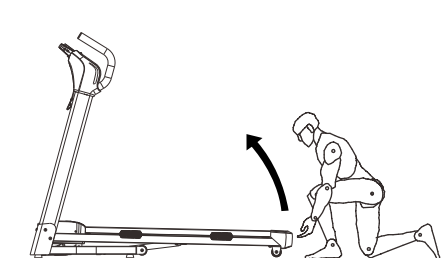

Figure 1
1) Folding treadmill: Folding up the treadmill can save space. Before folding, turn off the power switch, pull the plug, and lift the running platform with your hands until the running platform is stuck by the air spring sleeve. (As shown in figure 1).
Bend your knees slightly and slowly bend your body to relax your back and shoulders. And try to touch your toes with your hands. Hold for 10-15 seconds, then relax. Repeat three times. (See Figure1)